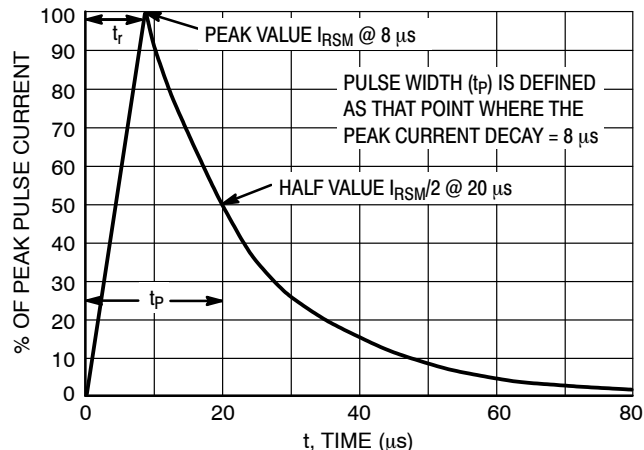

Figure 5. 8 x 20  $\mu$ s Pulse Waveform
1. Surge current waveform per Figure 5.